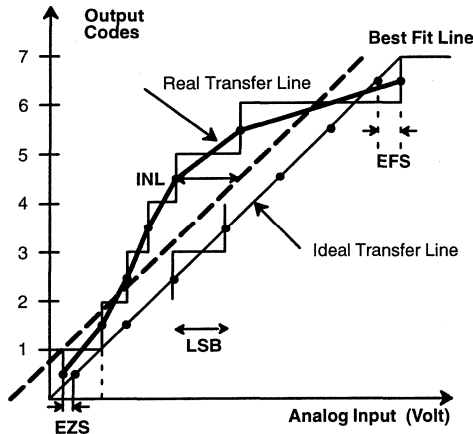

Figure 7. INL Error Calculation
- Tester measures code transition voltages by dithering the voltage of the analog input (V_{IN}). The difference between the measured code width and the ideal value (V_{REF}/1024) is the DNL error (see Figure 5). The INL error is the maximum distance (in LSBs) from the best fit line to any transition voltage (See Figure 7).
Figure 7. gives a visual definition of the INL error. The chart shows a 3 bit converter transfer curve with greatly exaggerated DNL errors to show the deviation of the real transfer curve from the ideal one.